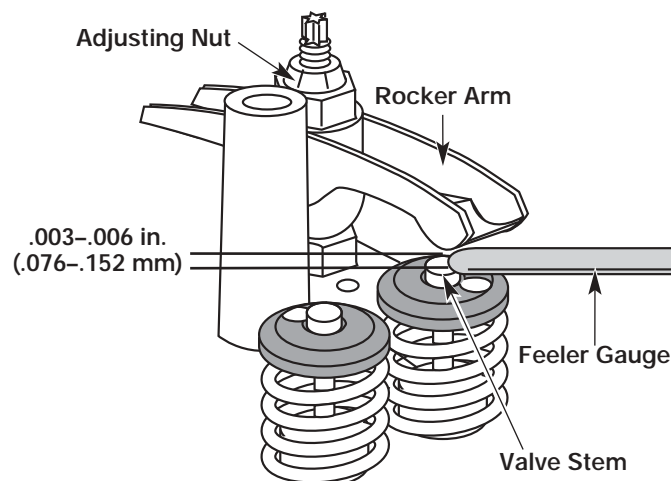

Fig. 72
- a. Turn the adjusting nut using a 5/16 inch (8 mm) wrench or nut driver (Fig. 72).